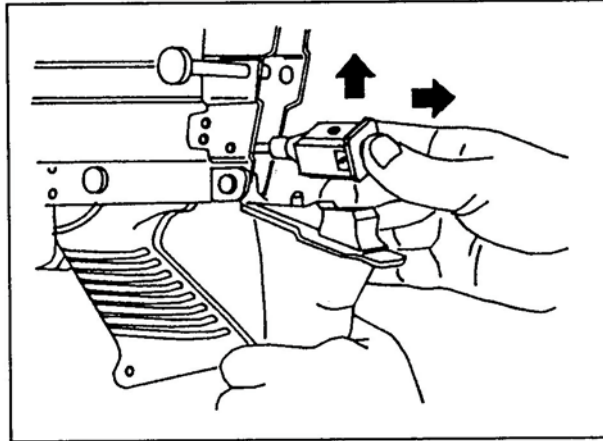

Figure 2. Removal of the return rod and transfer mechanism assembly.
- (2) Hold the weapon with one hand on the buttstock. At the same time, push in and upward on the rear end of return rod and transfer mechanism assembly with thumb of other hand to release it from positioning groove. Withdraw return rod and transfer mechanism assembly and spring (Figure 2).